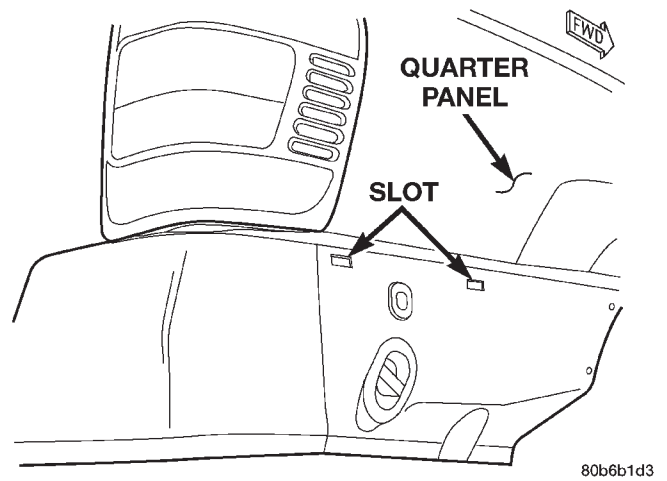

Fig. 7 Fascia Attachment
(1) Position fascia on vehicle aligning retainers with slots in quarter panel (Fig. 7).
(2) Press forward edges of fascia inward to engage retainers.
(3) Install screws attaching fascia to liftgate opening.
(4) Install plastic push pins attaching fascia to liftgate opening.
(5) Install nuts attaching upper edge of fascia to quarter panel and wheel liner.
(6) Install plastic rivets attaching fascia to wheel liner.
(7) Install support lower vehicle.
(8) Install plastic push pins attaching fascia to fuel tank skid plate.
(9) Install the interior trim panels removed to access fascia retainers.
(10) Install tie down loop screws.
(11) Install tires.